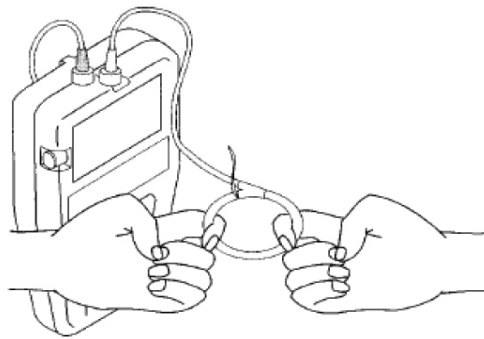

Fig. 4-5 Expanding the Loops
3. Expand the loop to its maximum circumference by inserting your fingers in the loop and slowly applying outward pressure until the loop will no longer expand. (see Figure 4-5).